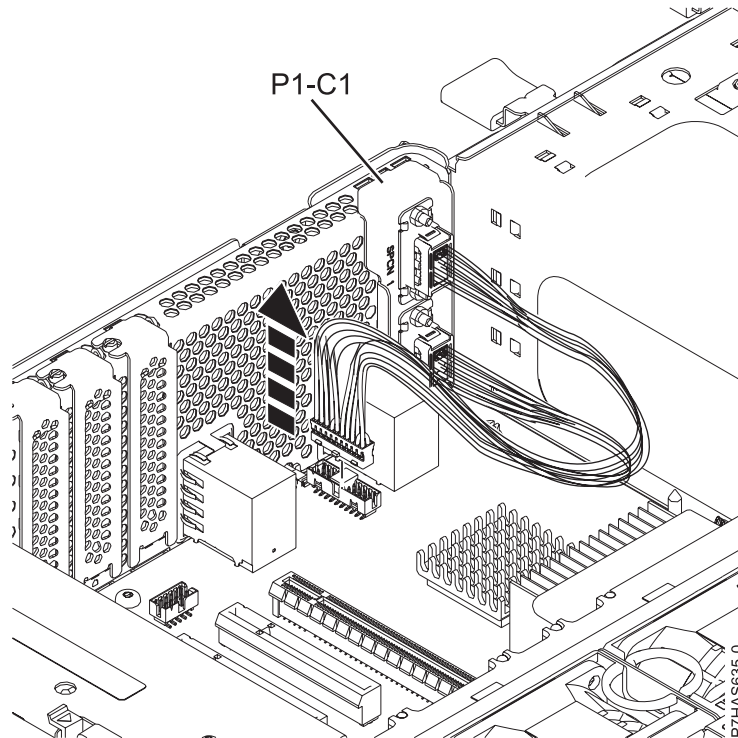

Figure 7. Removing the SPCN cable assembly
- a. Disconnect the SPCN tailstock cable from the system backplane, as shown in Figure 7 on page 9.